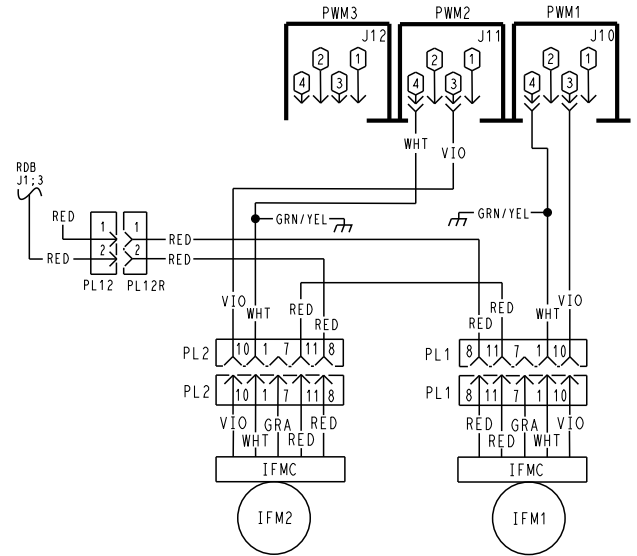

Fig. 11 — Supply Fan Control Wiring Diagram
6. Verify the J10 and J11 plug at the SystemVu board is wired per Fig. 11, connected tight, and wires are secured in the plug